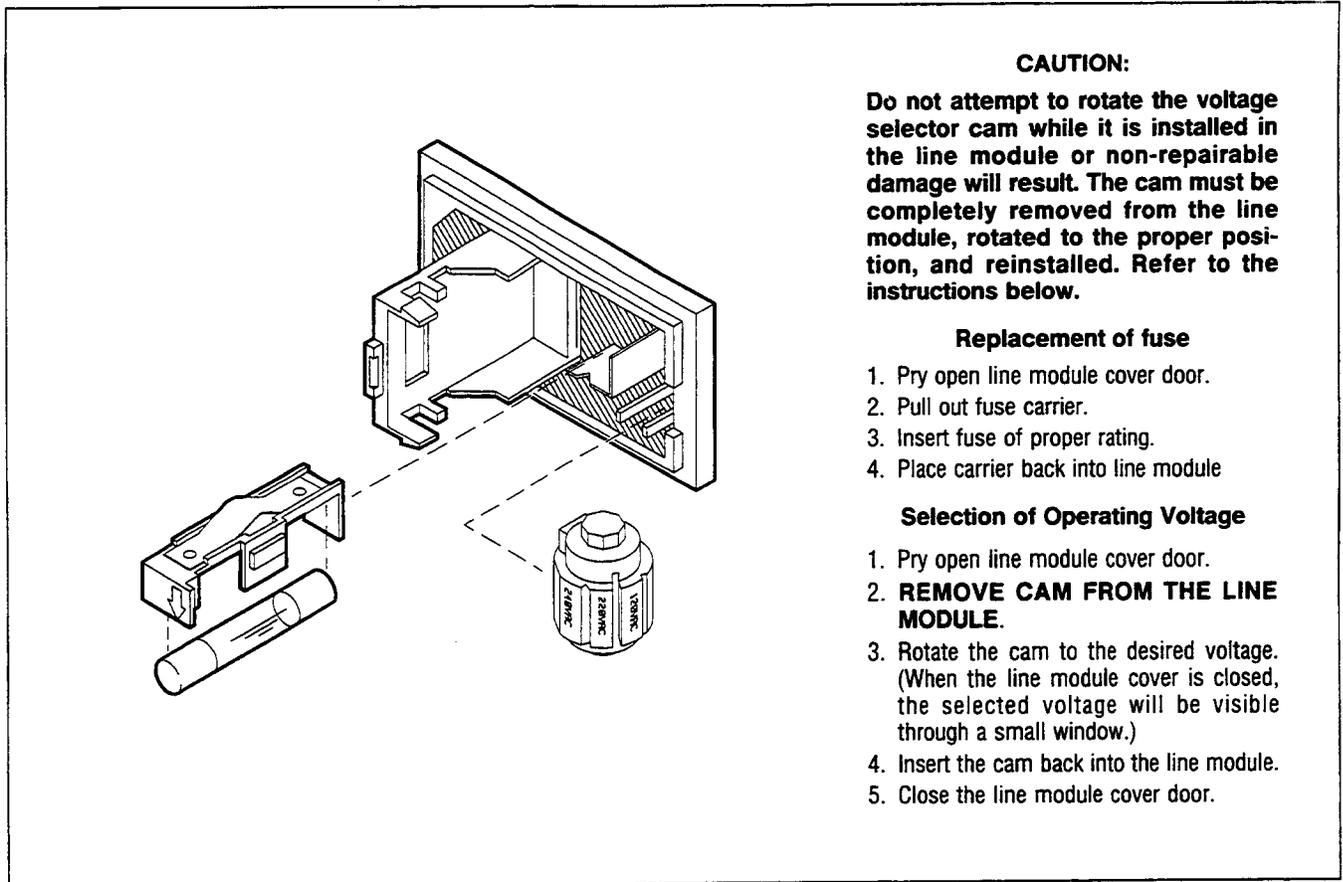

Figure 2-1. Line Voltage Selection Cam and Fuse Position
2. Refer to Figure 2-1. At the instrument's rear panel power line module, pry open the module door to reveal a rotating cam. **Do not rotate the cam in the module.** Remove the cam from the module, select the required voltage and replace it.